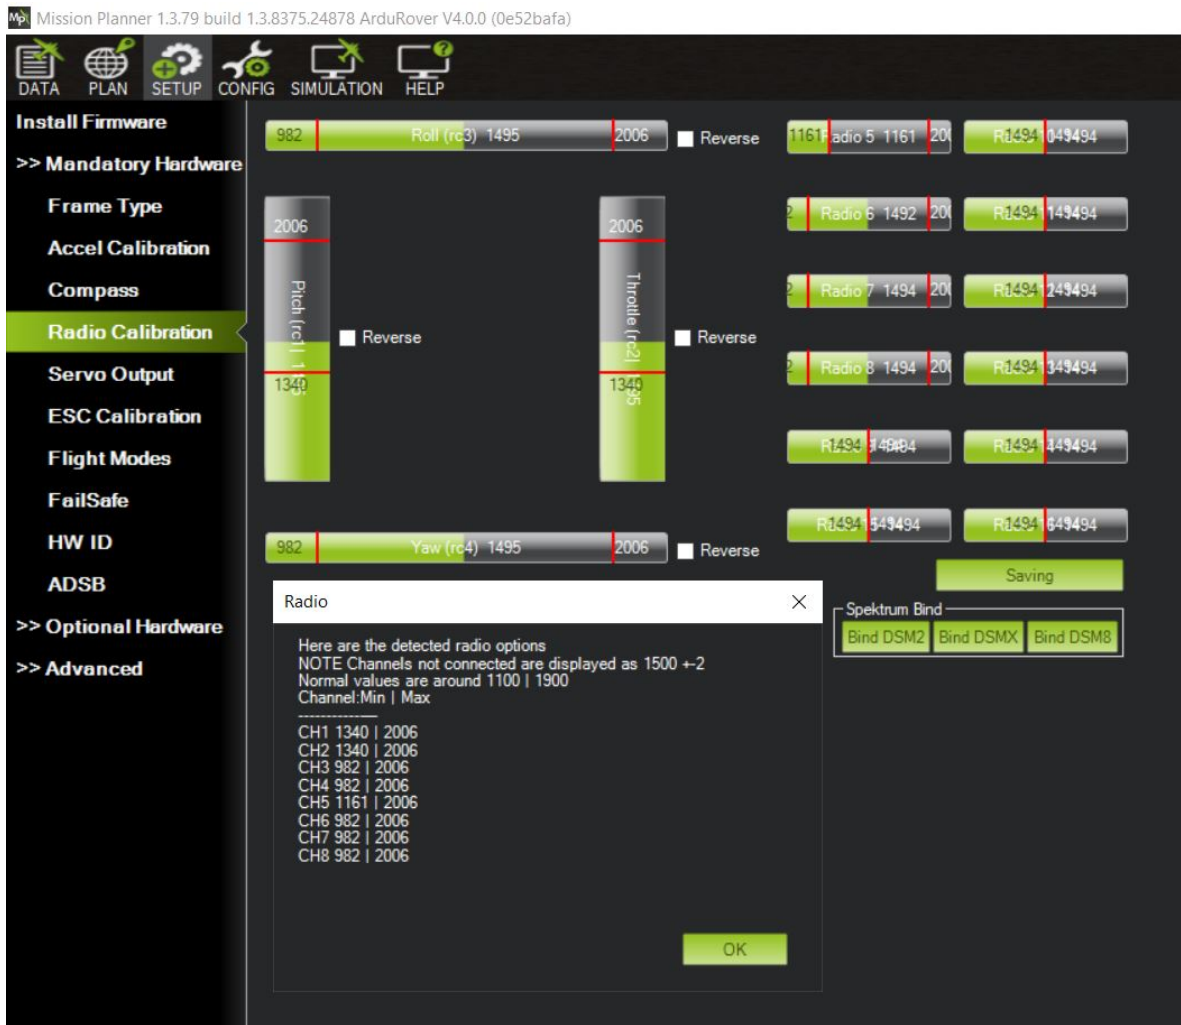

Figure 88: Radio Calibration Verification
13. A page will popup indicating the new min and max values. Press OK. (Refer to Figure 88)